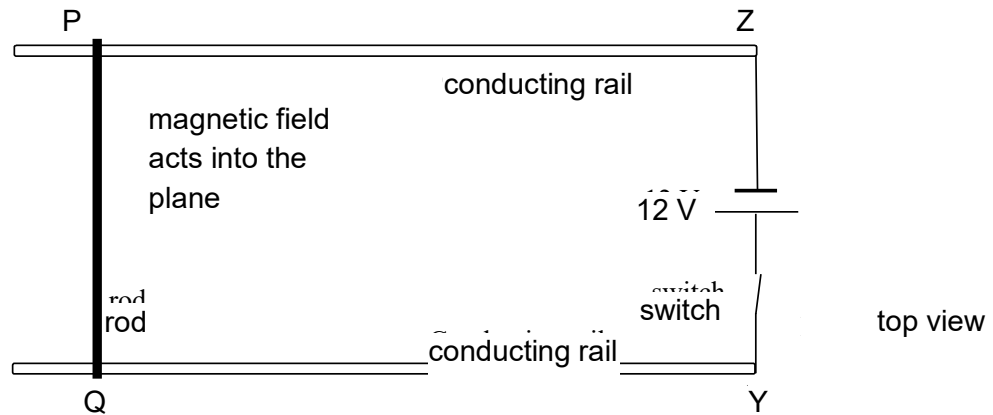

Fig. 7.1
- 7 The setup in Fig. 7.1 shows the top view of a 12 V D.C supply connected in series with a metal rod PQ of mass 30 g and length 0.50 m.